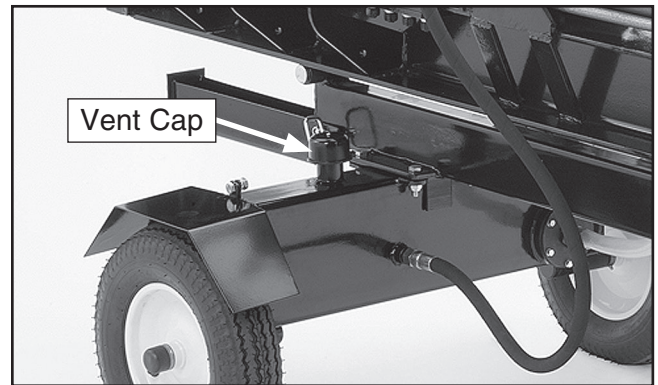

Figure 22. Vent cap location.
- Clean hydraulic tank vent cap (**Figure 22**) with solvent, and let air dry, and reinstall.
2. Wipe the vent cap with a clean rag and remove the vent cap shown in **Figure 22**.